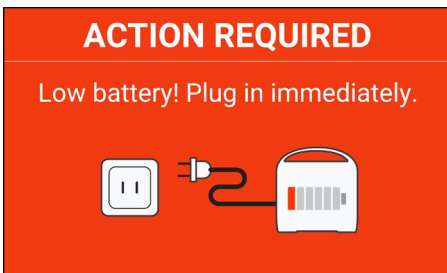
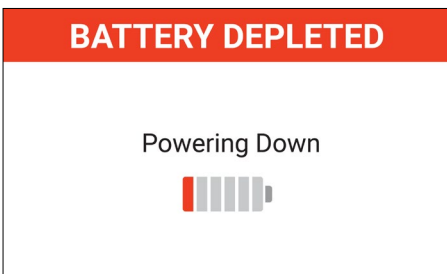

Figure 27. Low battery alert
Figure 28. Terminal battery shutdown alert
When the battery reaches approximately 2 hours of remaining run time, an alert will notify the user to plug in to AC power to avoid interruption in therapy. (Fig. 27) If being used on a bed or seat, an auditory alert will sound for three (3) minutes every hour while the alert is active. If being used on the procedure table, an auditory alert will sound for five (5) seconds every hour while the alert is active. The low battery alert screen will be dismissed by either plugging the controller into AC power or by pressing discharge on the screen. If a terminal shutdown occurs (Fig. 28) the patient's information will be cleared from the system.